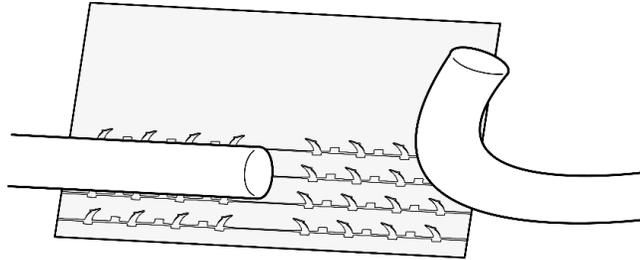

Figure 3
- 8.6 Position the first nerve stump slightly past the midpoint of the device, place onto one of the central microhook columns and apply a gentle reverse and downward tug to engage the underlying microhooks into the epineurium. The cut surface of the nerve stump should end up at the midpoint of the device (Figure 3).